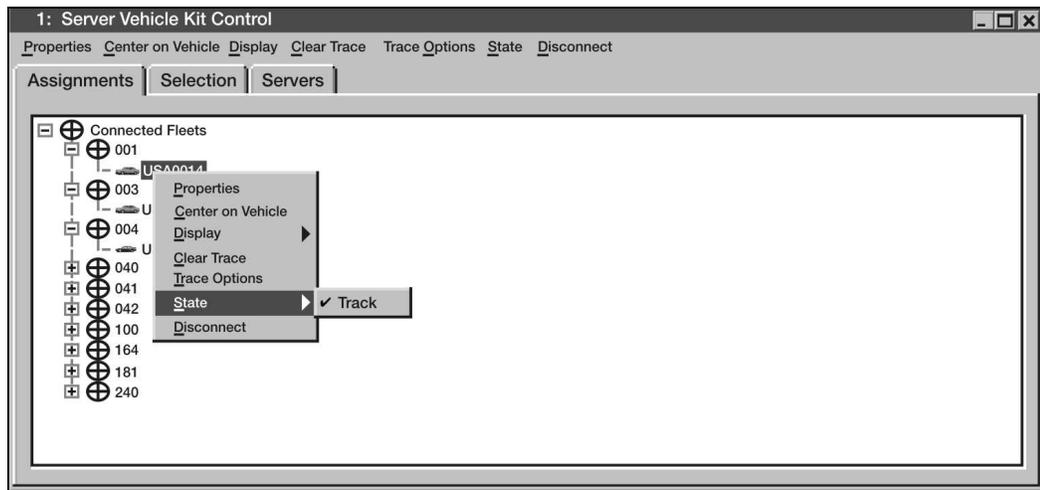

Figure 3-43. Autotrack
- (c) Enable Autotrack function (see Figure 3-43).